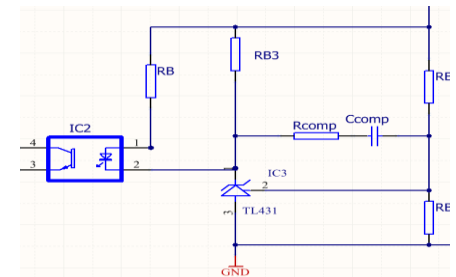

Figure 6: Feedback loop compensation
D. Feedback Loop Compensation: Feedback loop compensation is needed to prevent oscillation. For the DCM Flyback, loop compensation is less complicated compared to CCM, as there is no right half plane zero in the power stage to compensate for. A simple RC (Rcomp, Ccomp) as shown in Figure 6 is usually sufficient to make a stable loop. Typical Rcomp values can range from 1k -20k while Ccomp would usually range from 100nF-470nF. A detailed analysis about feedback loop can be found on reference [2].